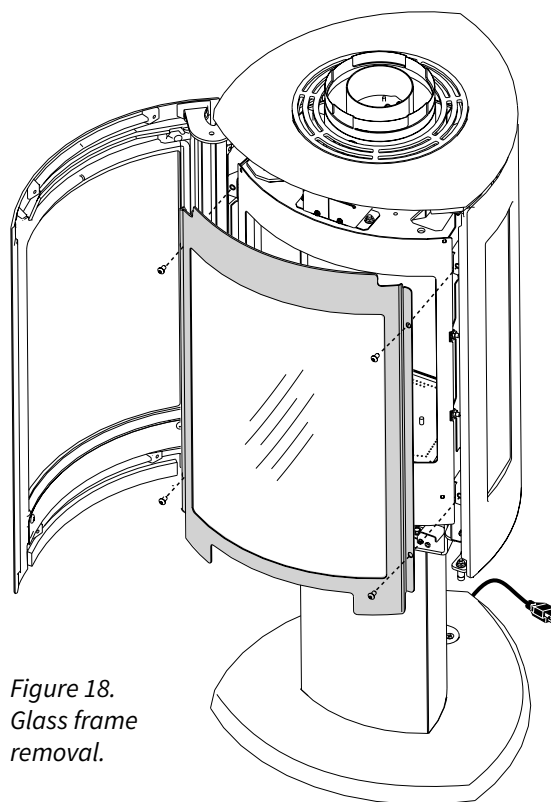

Figure 18.
To access the firebox, use the 4 mm hex key to remove the four socket head screws that attach the glass frame to the firebox. See fig. 18.
The power cord located in the valve compartment is connected to the Fan Control Module which is the main power supply for all stove operating functions. Route the cord through the pedestal and out the rear of the pedestal base as in fig. 18, or through the floor.
2. Remove the glass frame. See fig. 18.